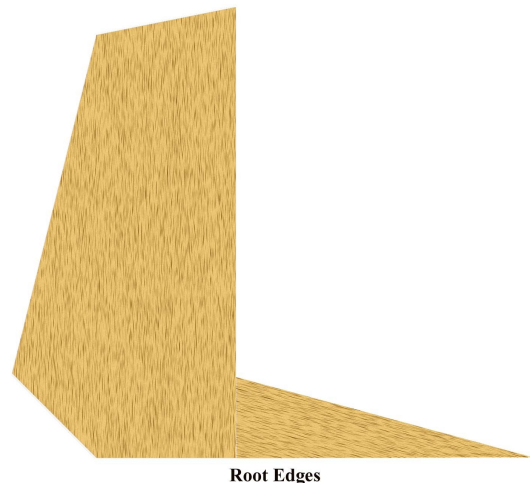

Figure 2
- **Step 4** Transfer the outlines of the fin pieces to 1/8" sheet balsa. Cut these out using the knife and the steel ruler. Square up the booster fins and the leading edge strakes at the locations where they will be joined, but do not round the other edges at this time. Assemble the booster fin pieces as shown in Fig. 2, using clamps and weights to keep the pieces aligned while the glue dries. Note the grain direction of the launch lug standoff. Round over **only** the leading and trailing edges of the standoff; square up the root edges (the edges that attach to the body tube and to the lug).